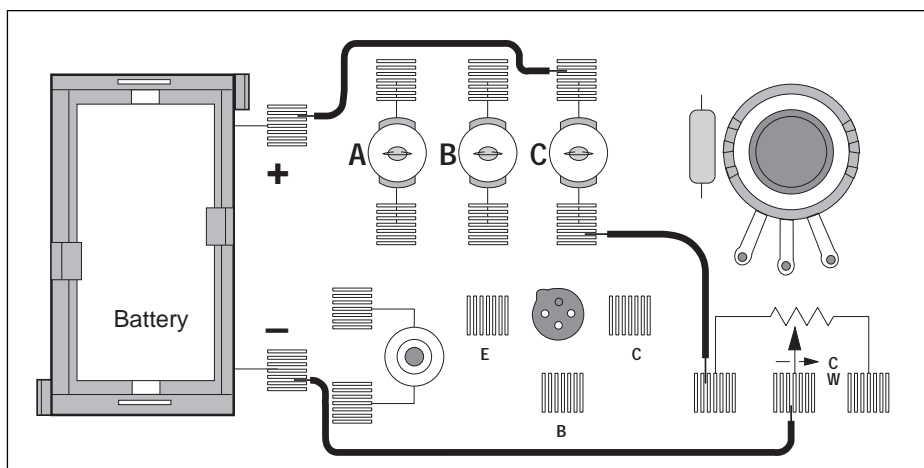

Figure 2.2
- ⑪ Connect the circuit shown in Figure 2.2. What is the effect of rotating the knob on the device that is identified as a “Potentiometer?”